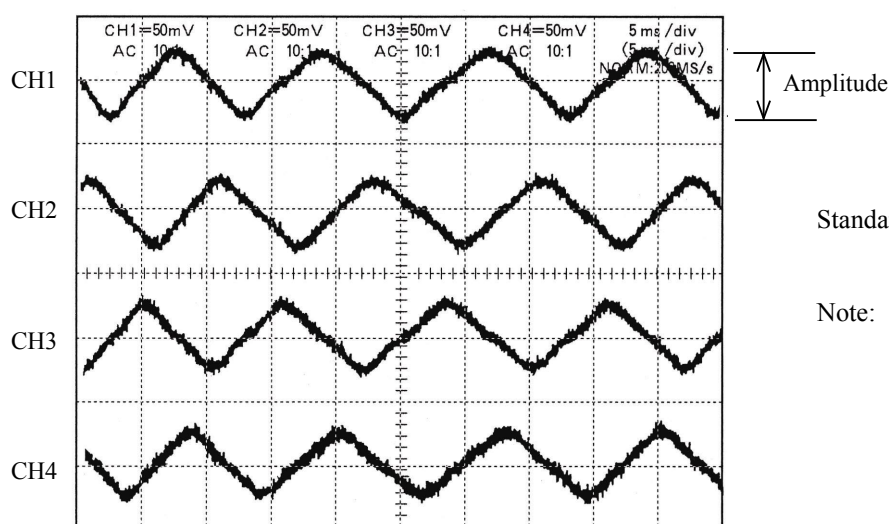

Fig.2
- ⑤ In case large waveform-noise (as shown in Fig. 1) is detected, use the FILTER function to become Fig. 2.